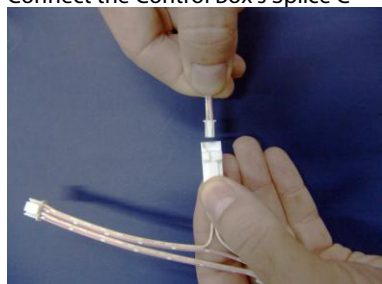

Fig 1
2. Connect DPLS1 Splice Connector to the selected mating Wire Harness Connector – see wiring harness selection above. Connect the Control Box's Splice Connector to the mating connector on the Wire Harness (Fig 1).